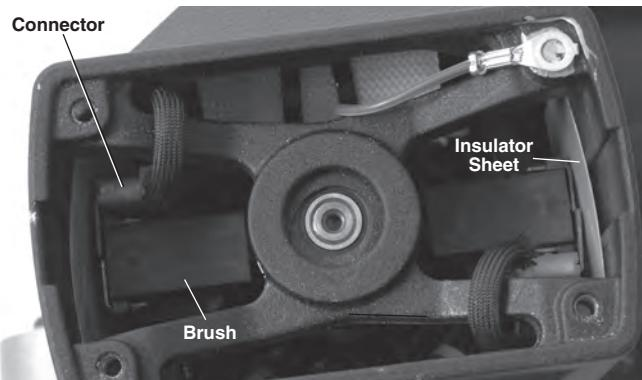

Figure 19 – Brush Placement - Motor Cover Removed
4. Using a pair of pliers, pull the motor brushes straight out. Detach the connector. (See *Figure 19*.)